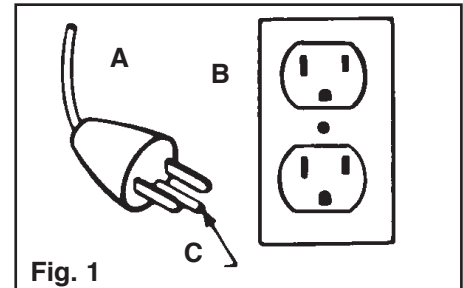
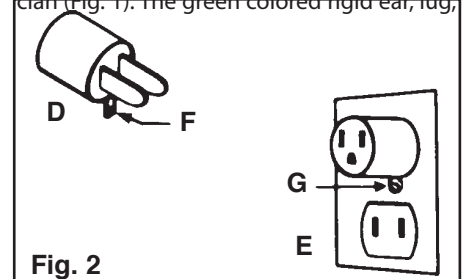

Fig. 1
Fig. 2
Improper connection of the equipment-grounding conductor can result in the risk of electric shock. Check with a qualified electrician or service person if you are in doubt as to whether the outlet is properly grounded. Do not modify the plug provided with the appliance - if it will not fit the outlet, have a proper outlet installed by a qualified electrician. This appliance is for use on a nominal 120 volt circuit and has a grounding plug that looks like the plug (A) illustrated in sketch (Fig. 1).
A temporary adapter (D) may be used to connect this plug to a 2-pole receptacle (E) if a properly grounded outlet is not available (Fig. 2). The temporary adapter should be used only until a properly grounded outlet (B) can be installed by a qualified electrician (Fig. 1). The green colored rigid ear, lug,
or the like (F) extending from the adapter must be connected to a permanent ground (G) such as a properly grounded outlet box cover (Fig. 2). Whenever the adapter is used, it must be held in place by a metal screw. **NOTE:** In Canada, the use of a temporary adapter is not permitted by the Canadian Electrical Code.